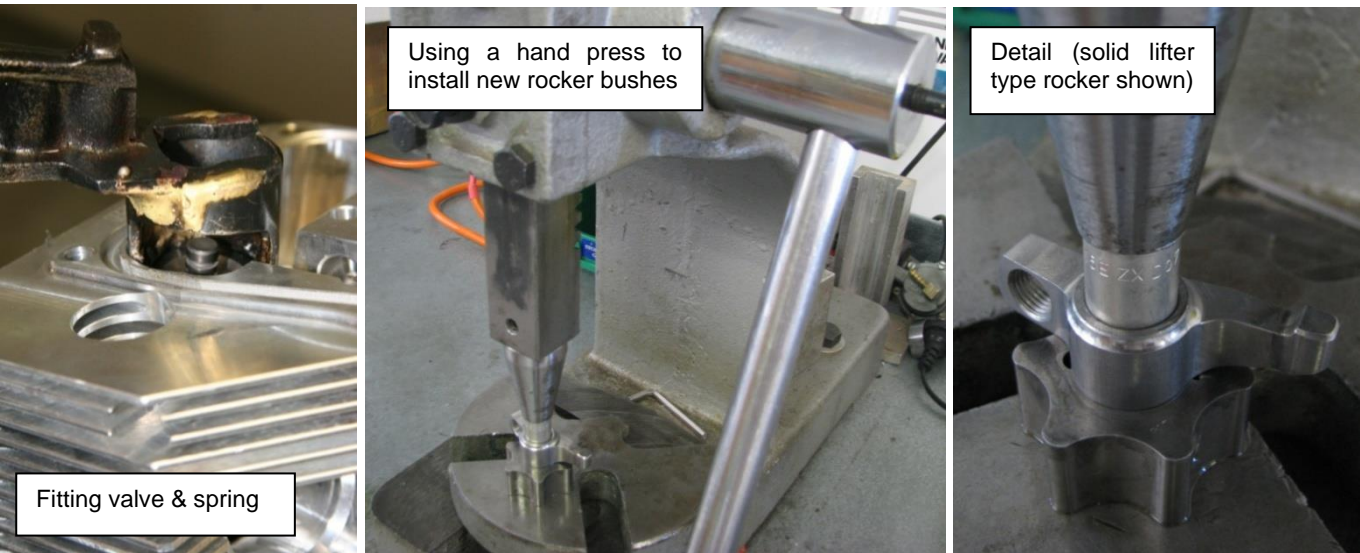

Figure 148 – Fitting Valves to Head, Fitting Bushes to Rockers
- Fit new O rings (2) to the rocker shaft bore of the cylinder head and 2 new O rings to the pushrod tube bores. Use Nulon L90 to lubricate the O rings for assembly and to prevent damaging them while fitting the rocker shaft and pushrod tubes. Do not use rubber grease as it will attack these O rings and metal parts. Note that the large rocker cover O ring is fitted later in the assembly process.
- Lubricate the valves and valve guides using oil, then fit the valve springs and collets to the cylinder head using a spring compressor as shown in Figure 148. Ensure that the lower steel washer (shown at the lower left of Figure 97 – left) is fitted to the base of each spring.
- Note that the rocker shaft and valve rockers are fitted later in the assembly process. However now is the time to fit new bushes to the rocker arms (if needed). A special tool and a hand press (as shown in Figure 148) simplifies this job. Orient the new bushes so that the joint in the bush is pointing away from the crankshaft. Additional details are shown in section 5.11.8.